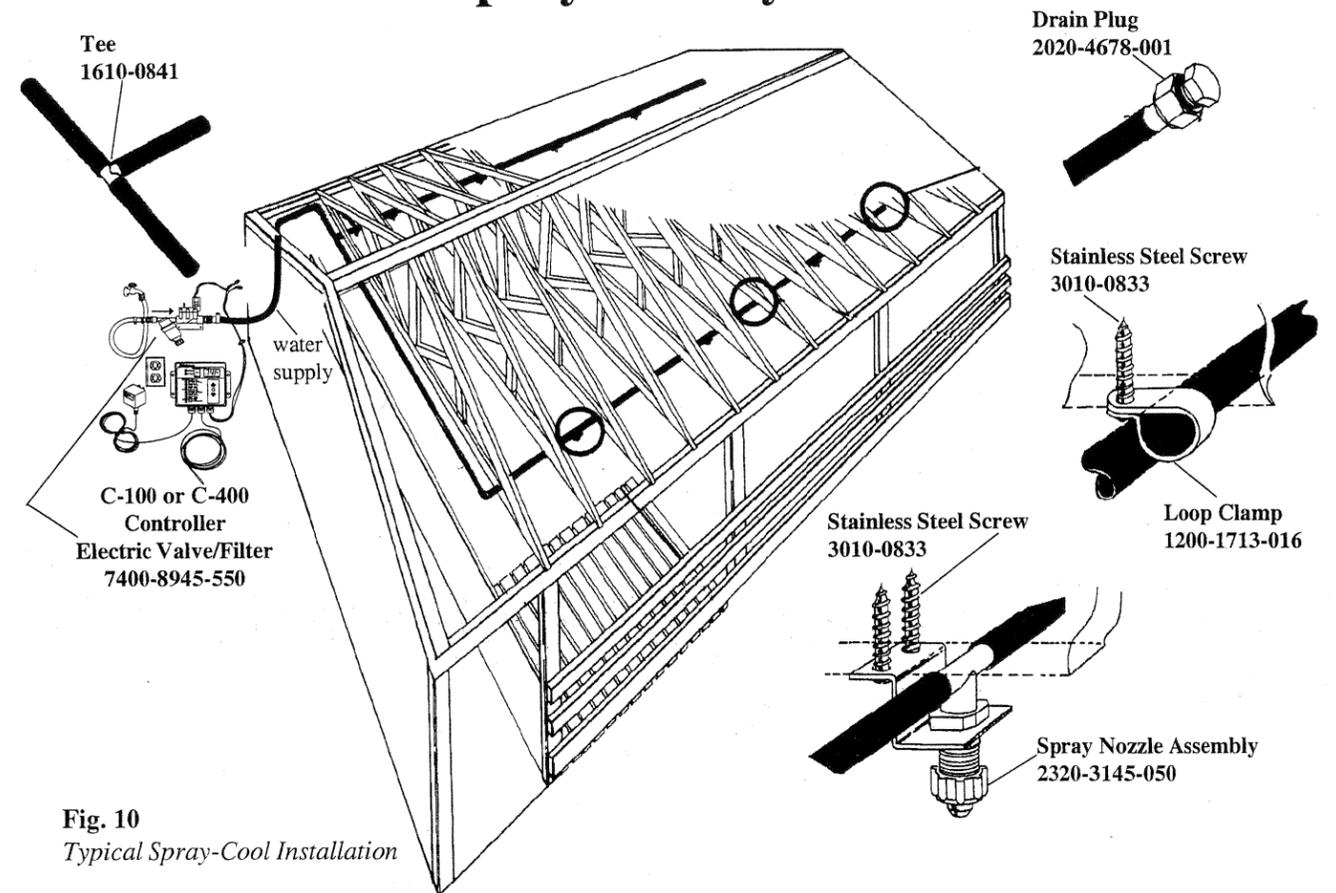
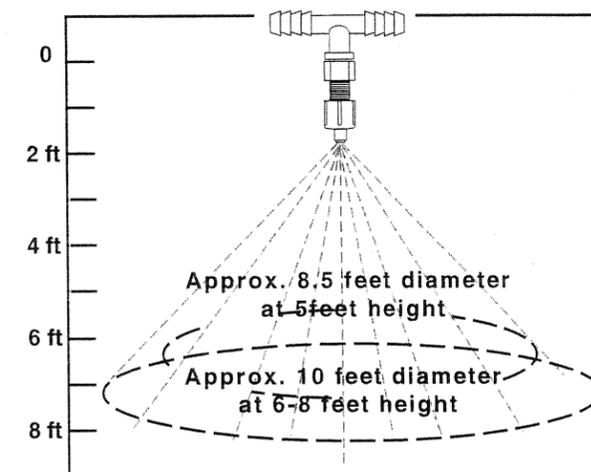

Fig. 10
Fig. 12
- Keep the length of the distribution lines as short as possible. Mount the electric valve near the center and run multiple branch lines from it, see Fig. 10.
- If the pen area to be sprayed is under a roof, the spray nozzles and distribution line can normally be mounted on the ceiling or the lower cord of the trusses with the clamps and screws provided as shown in Fig. 10.
The spray nozzles should be located over the manure collection area of the pen, away from the feeders, see Fig. 10 & 11. Spray nozzles are normally installed one per pen at the height required to produce a spray pattern large enough in diameter to cover approximately the width of the pen; refer to Fig. 12 to determine spray diameter in relation to nozzle height. For narrow pens with fewer pigs per pen, one spray nozzle can be mounted over the pen partition to spray two pens.
The spray nozzles provided with the Edstrom Spray-Cool System produce a coarse droplet spray (not a mist or fog) and deliver an even distribution over a circular area. The diameter of this circular area varies according to the height of the nozzle, see Fig. 12.